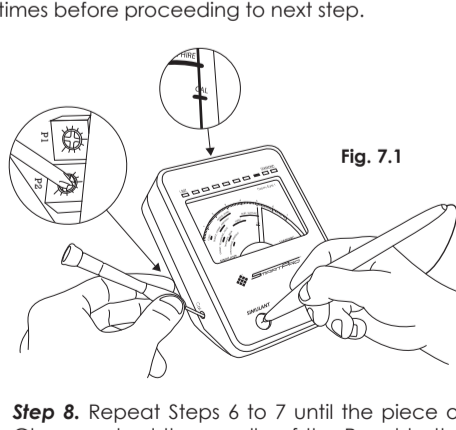

Fig. 7.1
Step 7. Press the probe pen onto the Simulant Test Disc while adjusting the P2 potentiometer carefully using a small screwdriver until the needle of the panel display reached the center of the "CAL" bar (**Fig. 7.1**). Check this 3-5 times before proceeding to next step.